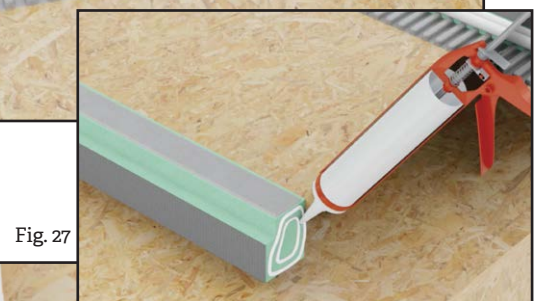

Fig. 27
4. Apply a generous amount of Joint Sealant to the Wallboard where the Curb will be located and each end of the Curb (fig. 27).